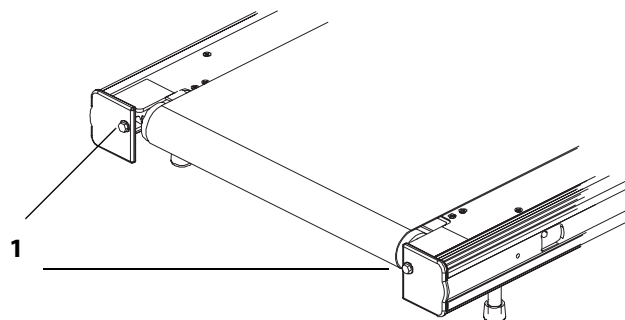

Figure 4-1: Adjustment bolts
3. Locate the two adjustment bolts at the rear of the treadmill (see Figure 4-1).
2. Increase speed to 6 mph (9.5 km/h) and make the following adjustment (See Figure 4-1 for the location of the bolts):